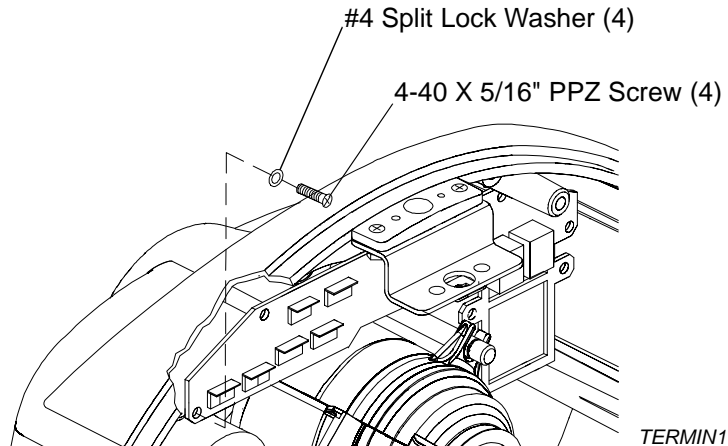

Figure 2-18: VL6 Luminaire Yoke Termination PCB Replacement
- Step 4. Using #1 Phillips screwdriver, remove four 4-40 X 5/16" PPZ screws and four #4 split lock washers securing yoke termination PCB to front assembly, and remove board. **Figure 2-18.**